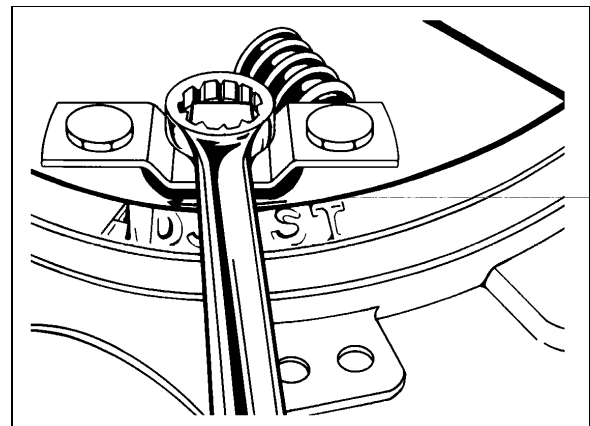
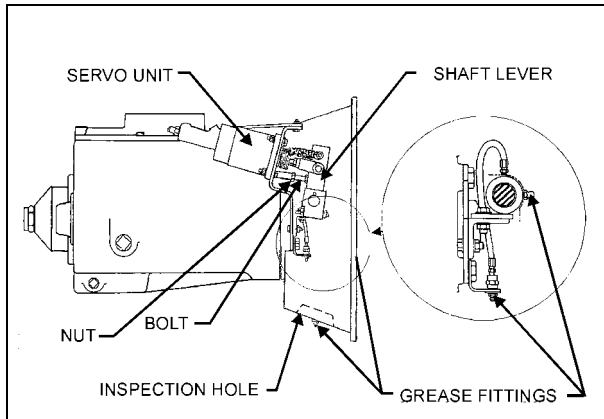

FIGURE 3: SQUARE HEAD BOLT MA3E0224
FIGURE 4: CLUTCH INSTALLATION
- If clearance is incorrect, release the clutch by depressing the clutch pedal to end of pedal travel. Insert a 3/4" socket (12 points) or a 3/4" box-end wrench through inspection hole (Fig. 4). Depress square-head bolt to adjust clutch (Fig. 3). The "Kwik-Adjust" will re-engage at a quarter of a turn. The flat surface on the bolt head will align with the flat edge of the bracket.
2. If clearance is incorrect, adjust bolt until it touches the shaft lever and locks in position with nut (Fig. 4).
1. Locate the bleed valve mounted at the end of servo unit. Remove dust cap (Fig. 4 and 6).